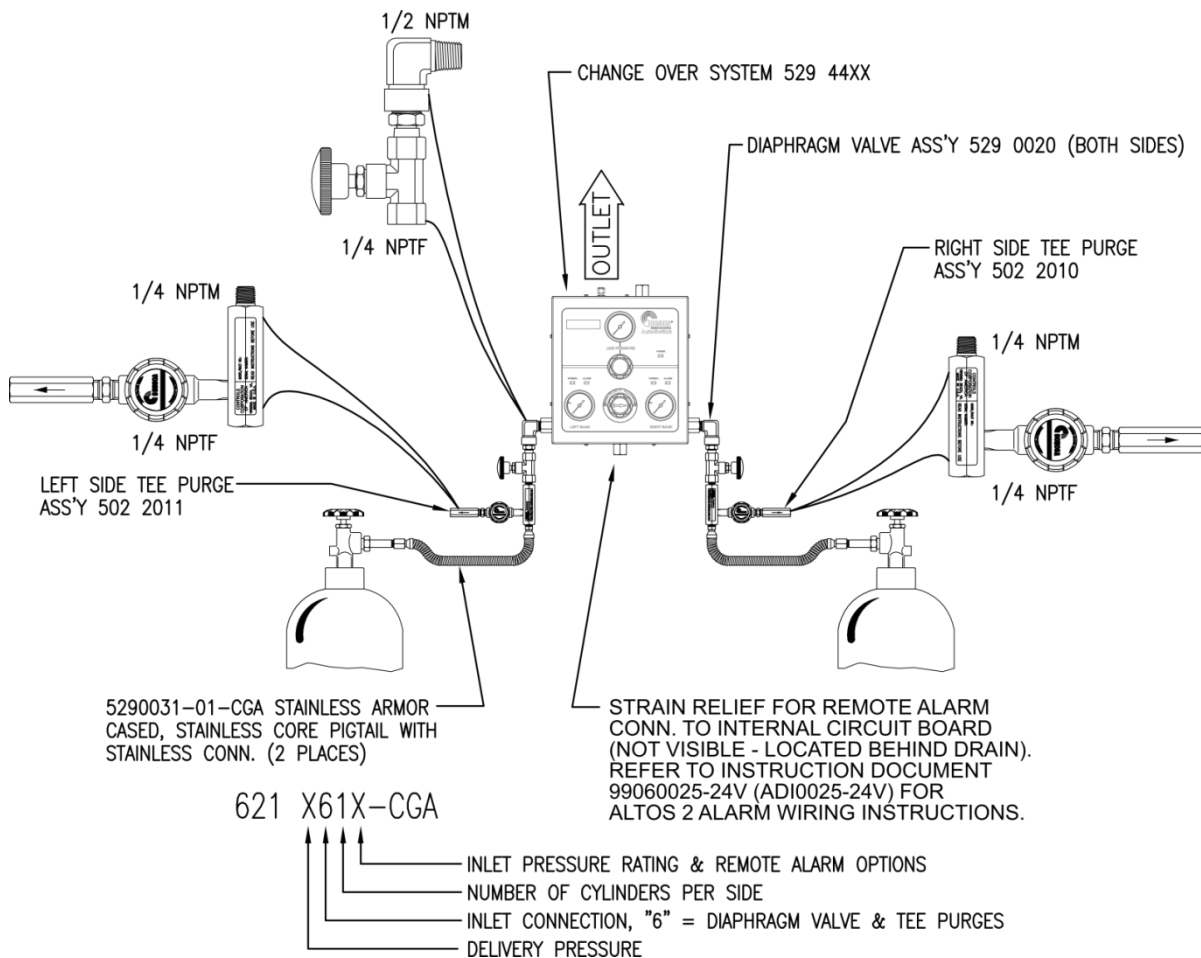

Figure 12 – Tee Purge and Diaphragm Valve with 1/4" NPT Female Port Shown with One Cylinder per Side
System 621 X61X-CGA (one pigtail per side with diaphragm valves and tee-purge assembly) – see Figure 12 for locations of components:
2. After taping the male NPT connections, thread the 1/2 NPT of the diaphragm valve assembly into the bulkhead connector of the AutoSwitch as shown in Figure 12. Wrench-tighten.
3. Thread the 1/4 NPT connection of the tee-purge assembly into the diaphragm valve assembly as shown in Figure 12. Wrench-tighten. Note: while tightening the tee-purge assembly into the diaphragm valve assembly, a second wrench must be in place holding the diaphragm valve. Failure to do so may cause the diaphragm valve assembly to loosen.
4. Thread the 1/4 NPT connection of the pigtail assembly into the tee-purge assembly as shown in Figure 12. Wrench-tighten. Note: while tightening the pigtail assembly into the tee-purge assembly, a second wrench must be in place holding the hex of the tee-purge. Failure to do so may cause the tee-purge assembly to loosen.